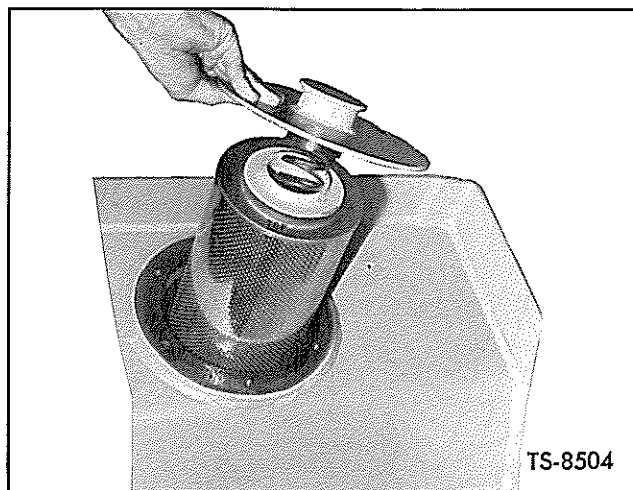

Fig. 44. Reservoir Return Filter Assembly
**Service Reservoir Return Filter Assembly:** The hydraulic reservoir return filter assembly installed inside the hydraulic reservoir consists of a gasket, spring retainer assembly and spring. The reservoir return filter assembly is designed and installed in a manner that permits the filter assembly to act as a relief valve so that oil can be by-passed if the filter element becomes excessively plugged with foreign material. This filter should be replaced every 500 hours. See Figure 44.